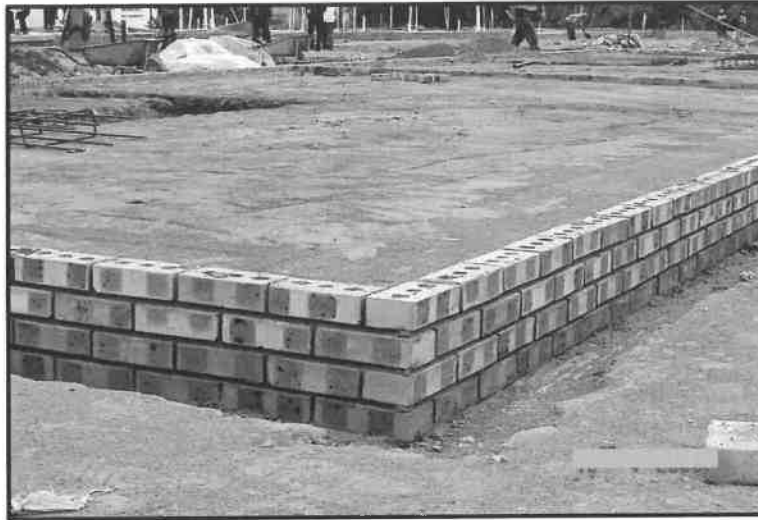

FIGURE 4.7
4.7 FIGURE 4.7 below shows a picture of a structure filled with soil.